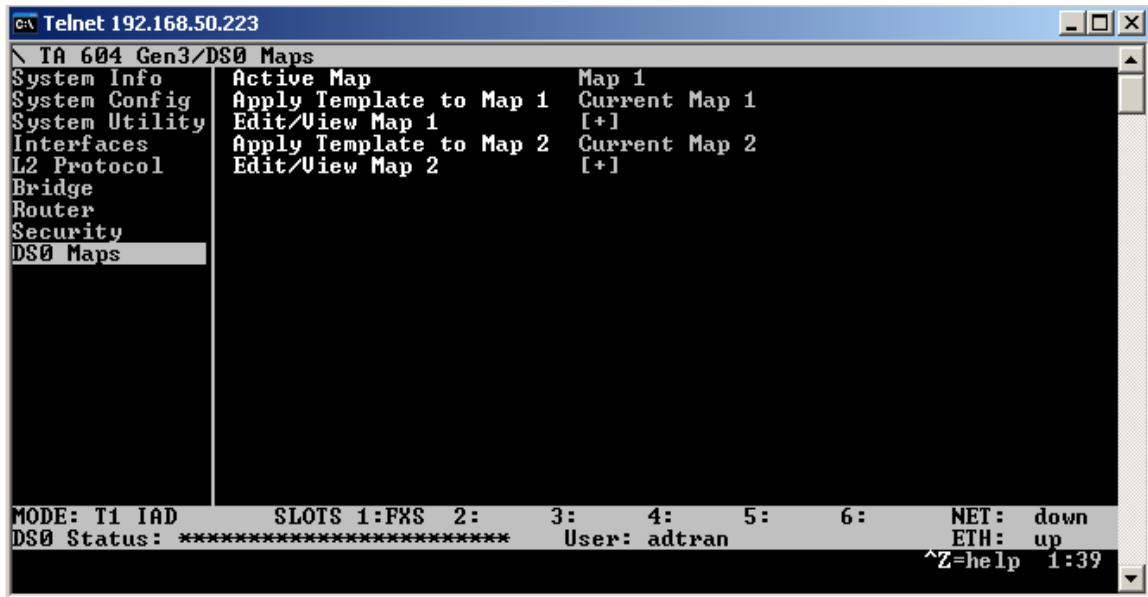

Figure 5 – DSO Map Menu
- Type H to return to the Main Menu and select the DSO Maps option from the left pane submenu. The DSO Maps menu is shown in Figure 5 below.